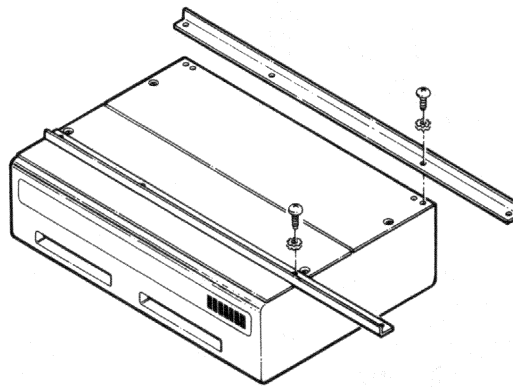

Figure 4-2 Installing Support Brackets
- Remove the rubber feet if attached by removing the screws that hold them in place (Figure 4-1). Refer to Figure 4-2 and align the two support brackets on the bottom of the TU58-DA so they are flush with the left side. Fasten down the right side of each support bracket with two screws and two lock washers.